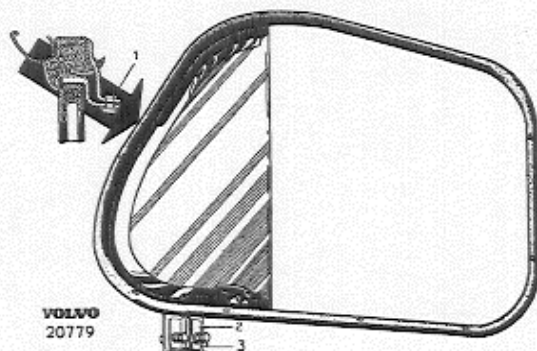

Fig. 42. Ventilator window
Remove the rivet (1, Fig. 42) which holds the upper side of the ventilator window to the window frame. Loosen both the tension screws (3) and remove the lower cap (2). Lift out the window, and the rubber weatherstrip is then accessible for replacement.